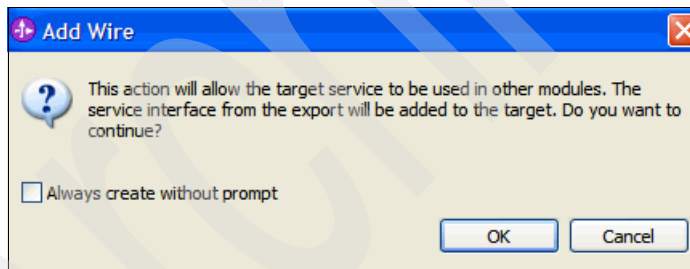

Figure 6-20 Adding a wire
4. When you are prompted to add the service interface from the export to the target by the Add Wire window (Figure 6-20), click **OK**.